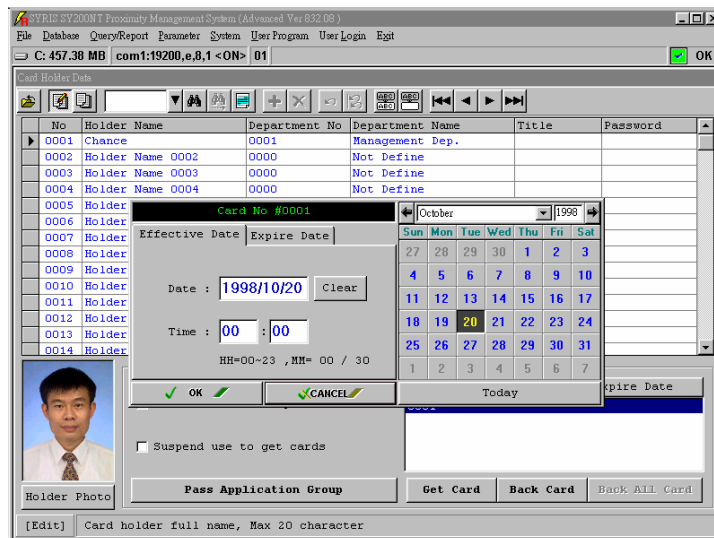

Fig.7-7 Card Effective Date Setting
3. Click "Effective Date", wait screen display, as Fig.7-7.